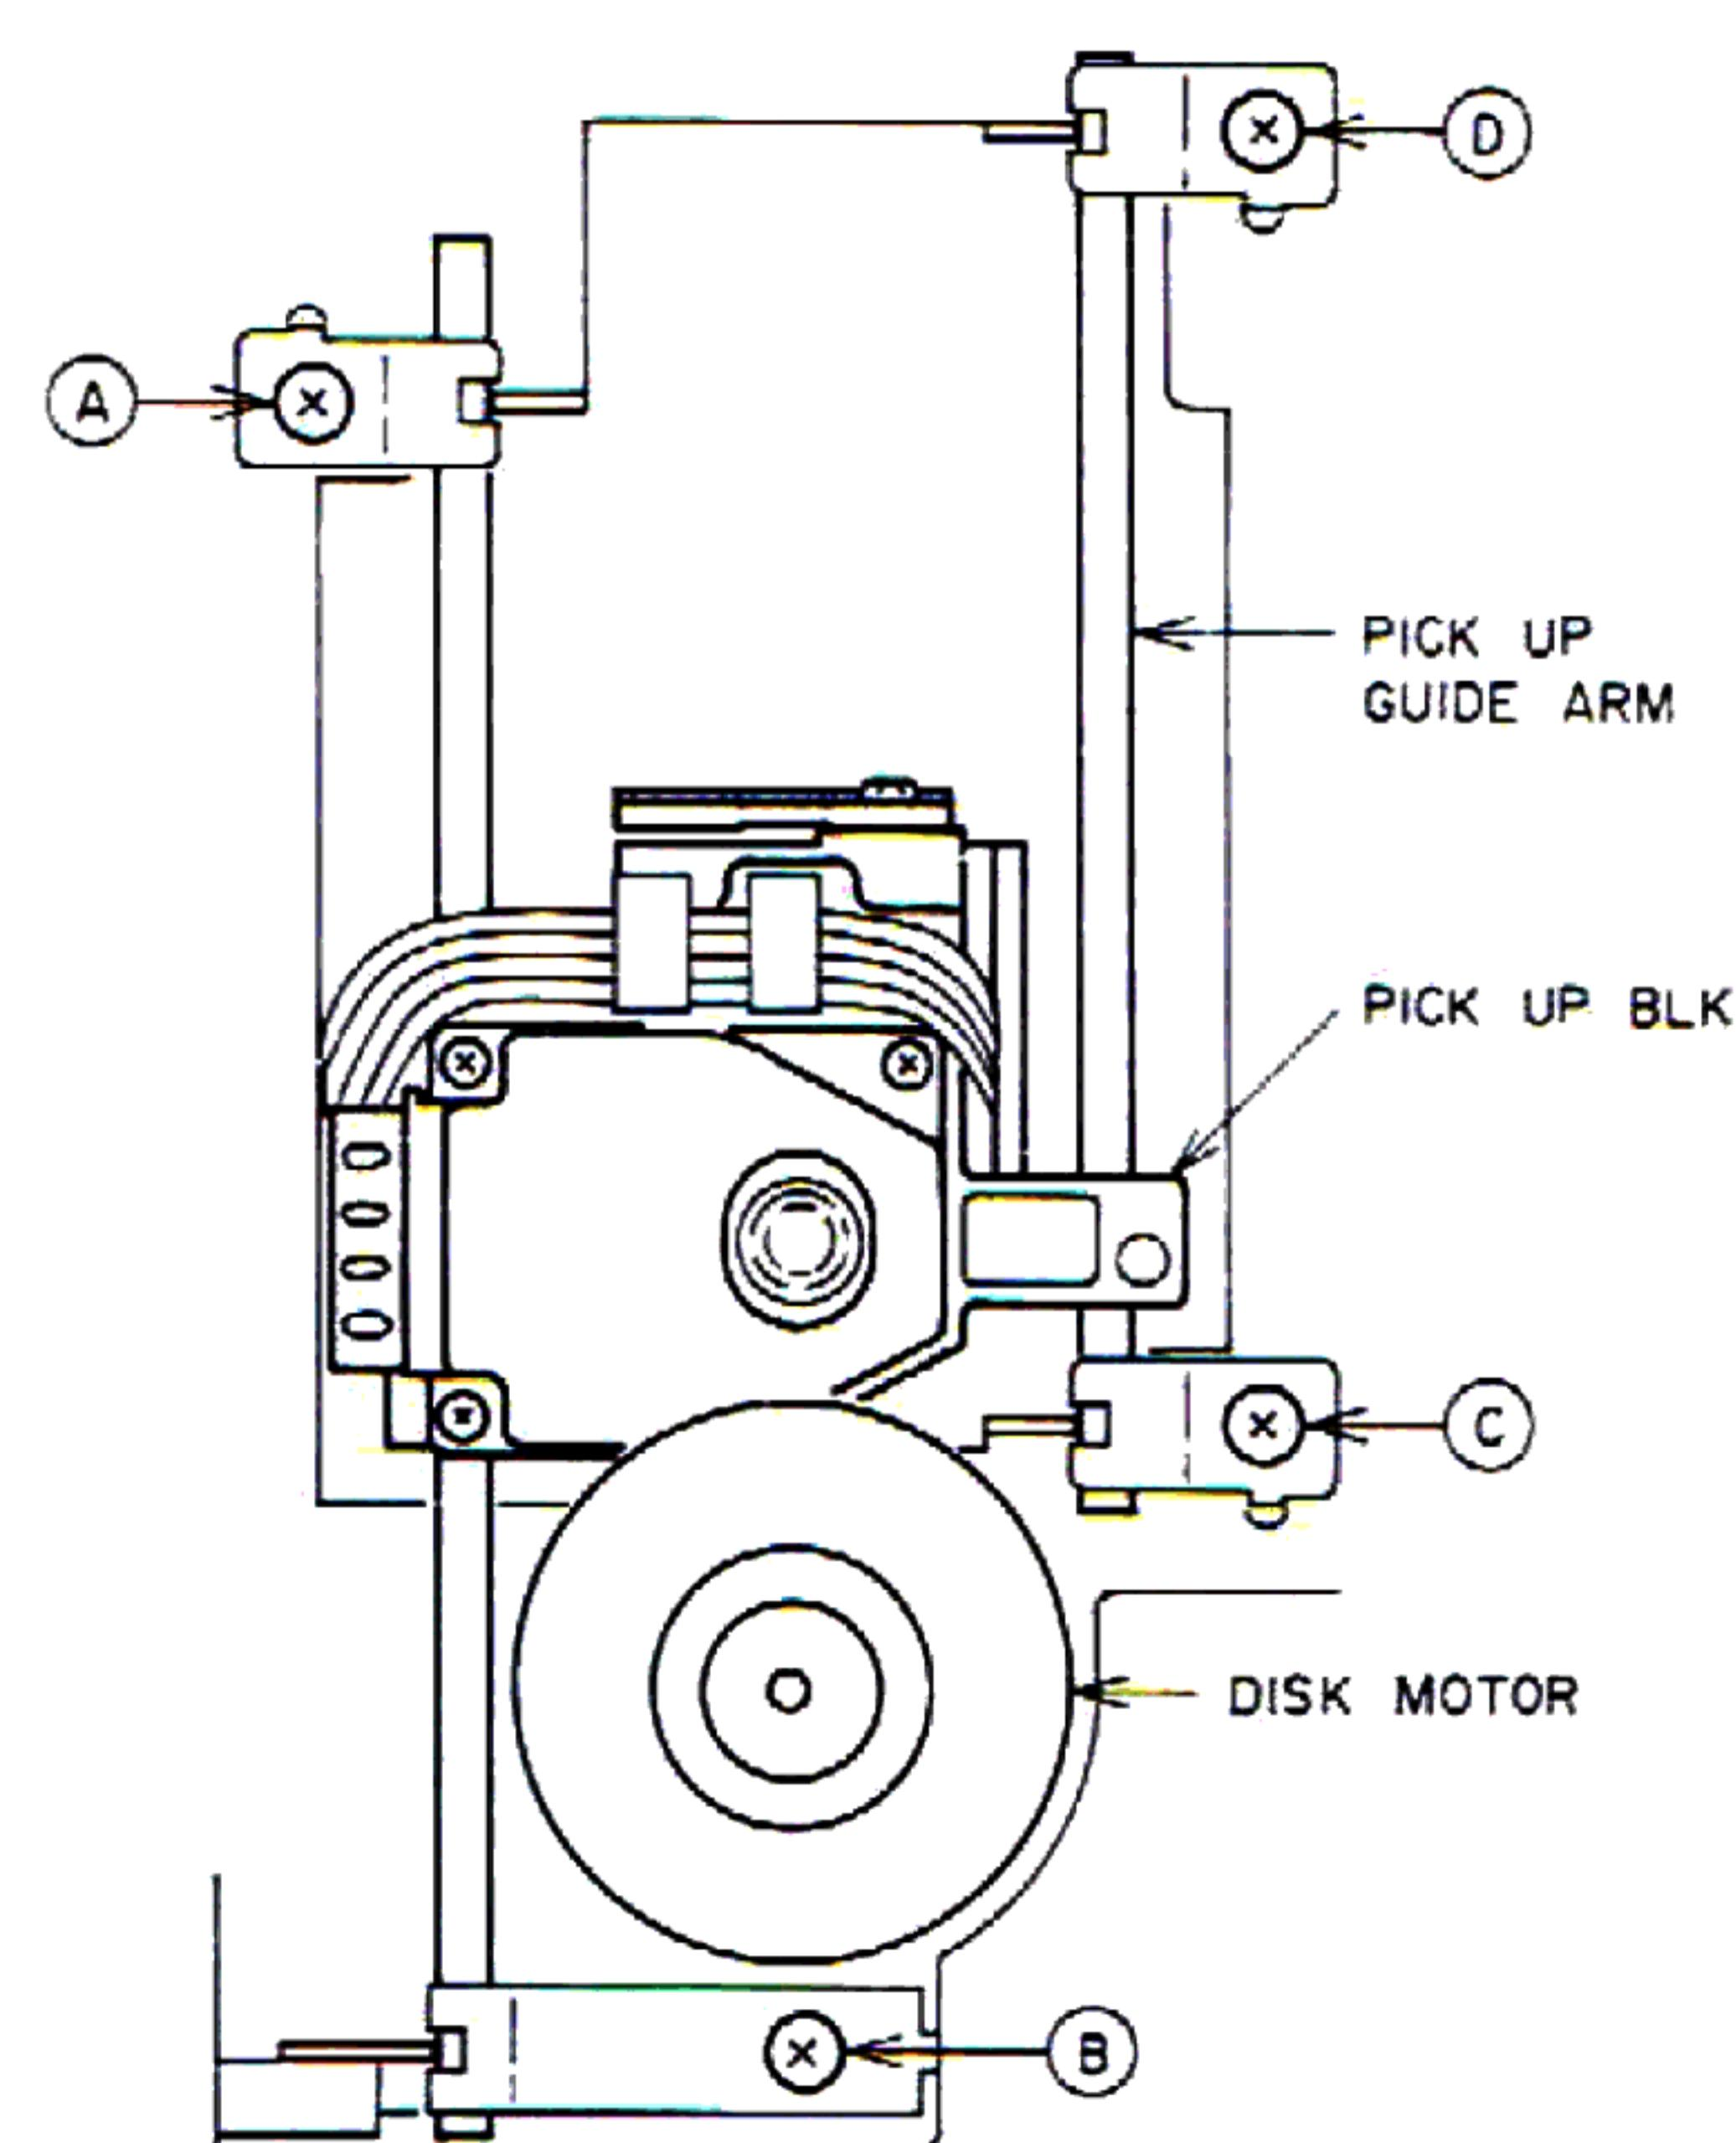

Fig. 4-4
- 7) When the four screws **(A)**, **(B)**, **(C)** and **(D)**, for the metal fittings of the pick-up guide rail are removed, the pick-up block guid rail can be removed. (Refer to Fig. 4-4)